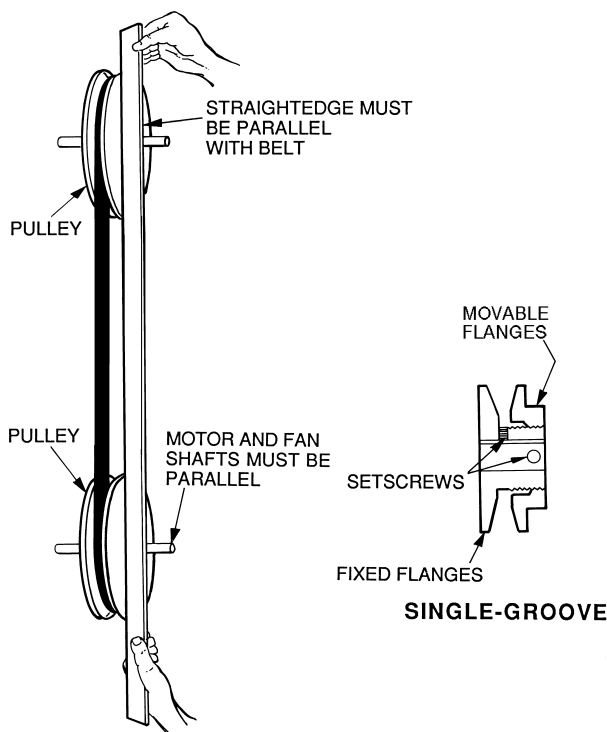

Fig. 23 — Evaporator-Fan Alignment and Adjustment
3. Loosen movable-pulley flange setscrew (see Fig. 23).